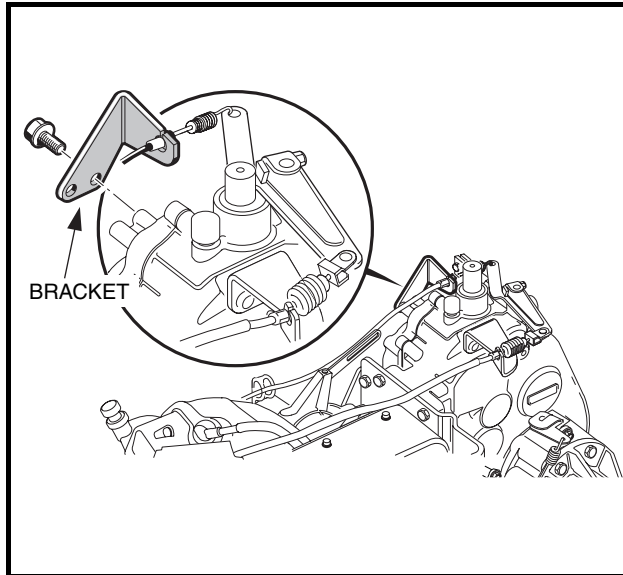

Figure 16-35 Accelerator Cable Bracket
- 5.10. Remove screws (2) securing the Forward/Reverse shifter cable bracket (1) to transaxle and remove the shifter bracket (**Figure 16-35, Page 16-15**).
20. Remove screws securing the accelerator cable bracket to transaxle (**Figure 16-35, Page 16-15**). See following **NOTE**.
- 26.1. Install the three screws (2) securing the Forward/Reverse shifter cable bracket (1) to transaxle and tighten them to 135 in-lb (15.3 N·m) (**Figure 16-35, Page 16-15**).